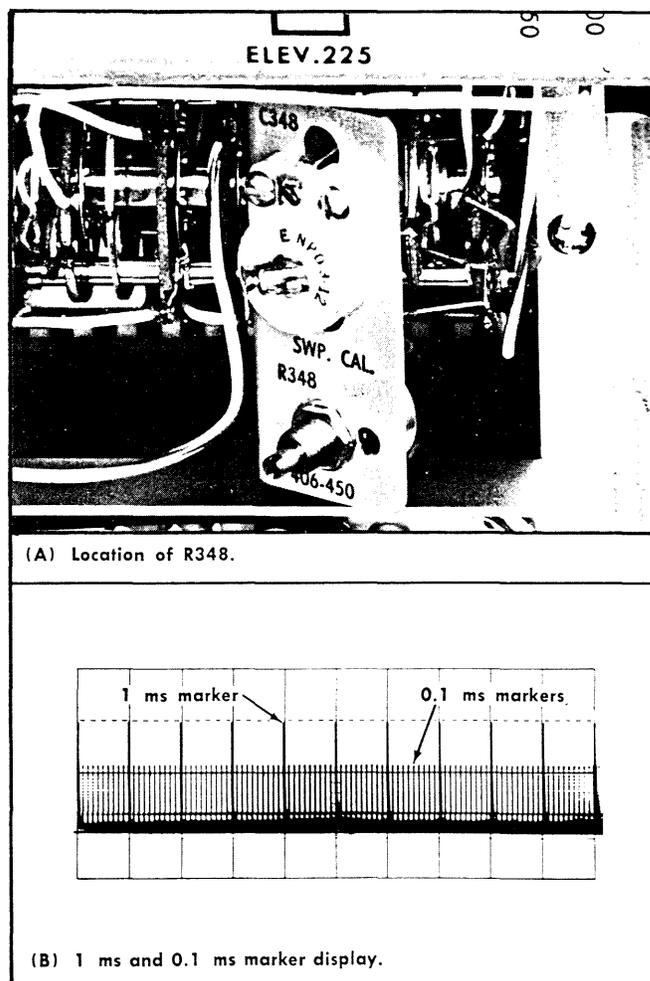
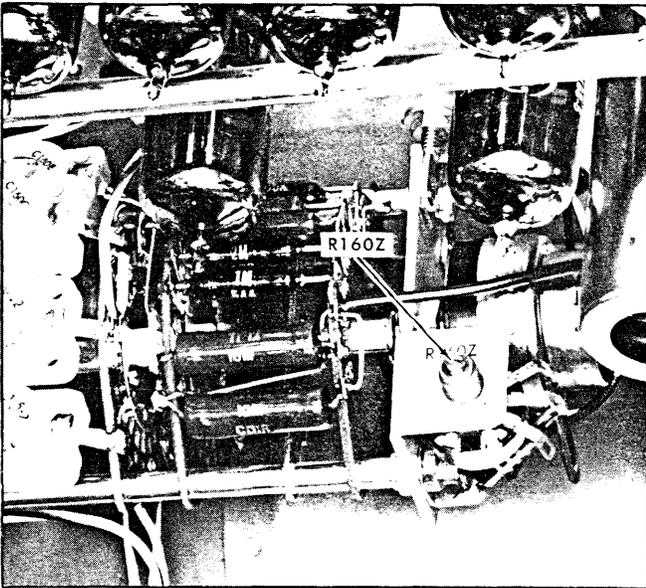
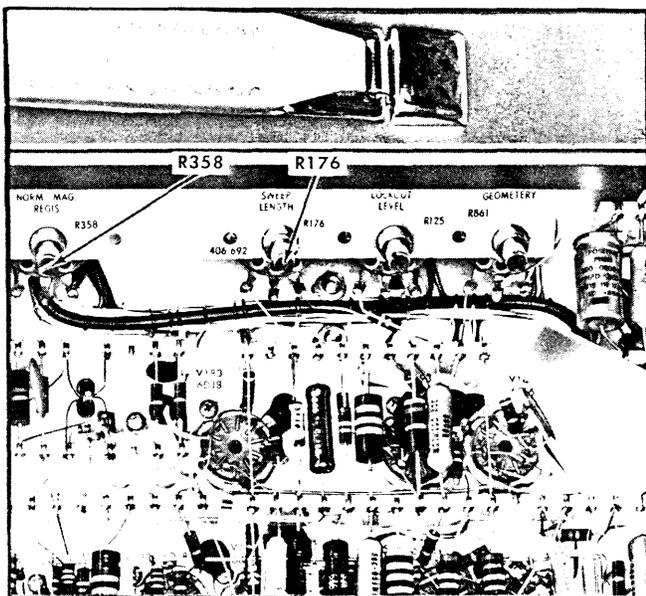
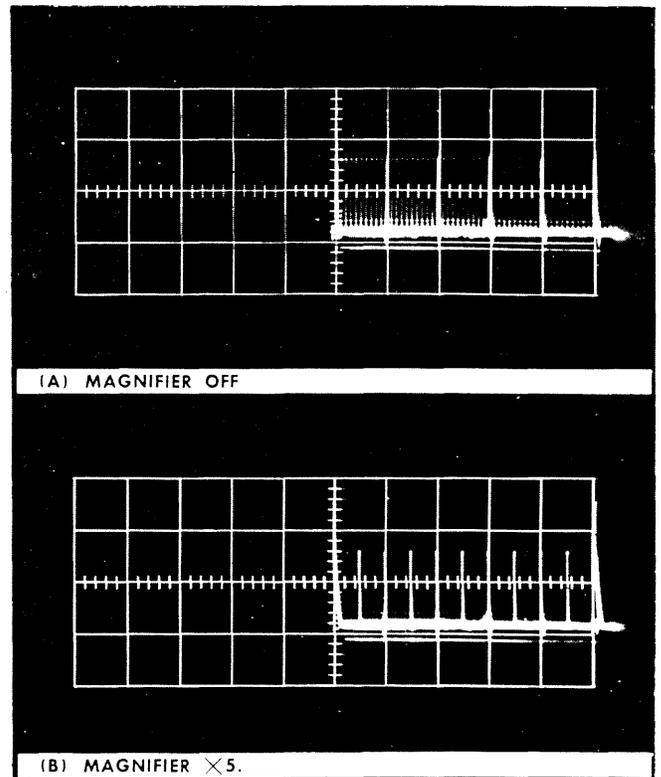

Fig. 6-23. Sweep Calibration adjustments.
Fig. 6-24. Location of R160Z timing potentiometer.
Fig. 6-25. Location of Sweep Length and Norm Mag Regis adjustments.
Fig. 6-26. Correct adjustment of Norm Mag Regis R358.
30. Adjust Sweep Calibration ①
- b. Adjust the Swp Cal R348 (Fig. 6-23) for one 1 ms marker/cm.
31. Adjust Time Base A to Time Base B ①
- c. Adjust A Triggering controls for a triggered display, then adjust timing potentiometer R160Z for 1 ms marker/cm. Fig. 6-24.
32. Adjust 'A' Sweep Length and Check Variable Control Range ①
b. Adjust Sweep Length R176 (Fig. 6-25) for a sweep length of 10.5 cm.
33. Adjust Sweep Magnifier Registration ①
- b. Turn the 5X MAGNIFIER switch to the ON position, then position the display so that the zero time marker is directly behind the graticule center vertical line. See Fig. 6-26.
- c. Turn the 5X MAGNIFIER switch to OFF position and adjust the Norm/Mag Regis R358 (Fig. 6-25) to position the zero time-marker directly behind the graticule center vertical line. See Fig. 6-26.